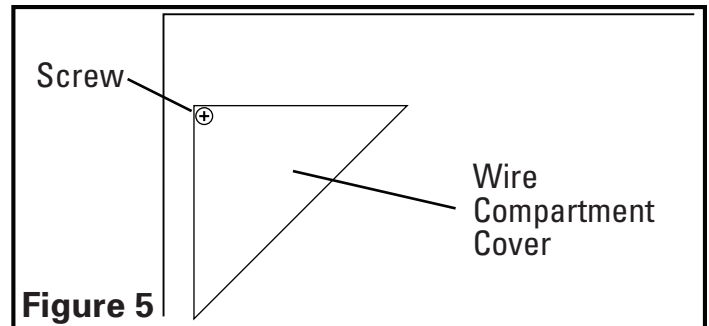

Figure 5
- 1a. **External Wire Compartment:** Remove the wire compartment cover screw and place cover in a secure place (Figure 5).